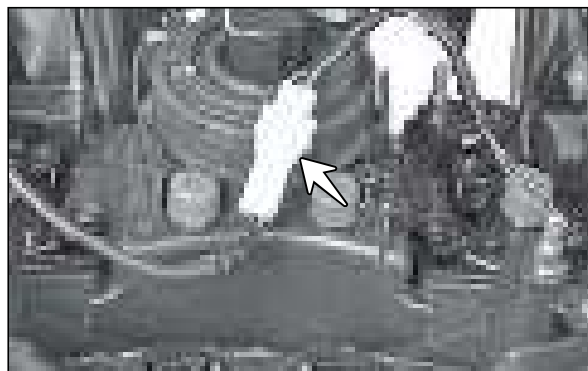

Fig. 5.79
- Disconnect the position lamp assembly connector. (Fig. 5.79)